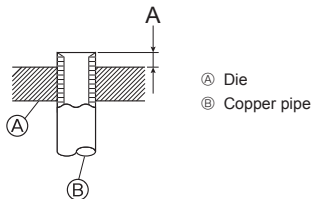

Fig. 4-9
- ① Pipes must be connected starting from the indoor unit. Flare nuts must be tightened with a torque wrench.
- ② Flare the liquid pipes and gas pipes and apply a thin layer of refrigeration oil (Applied on site).
- ③ Use the following procedure for connecting the gas-side piping. (Fig. 4-9)
- 1 Braze the ① Joint pipe provided to the outdoor unit using locally procured brazing materials and ② Local piping without oxygen.
- 2 Connect the ① Joint pipe to the gas-side Stop valve. Use 2 wrenches to tighten the flare nut.
Table 3 (Fig. 4-9)